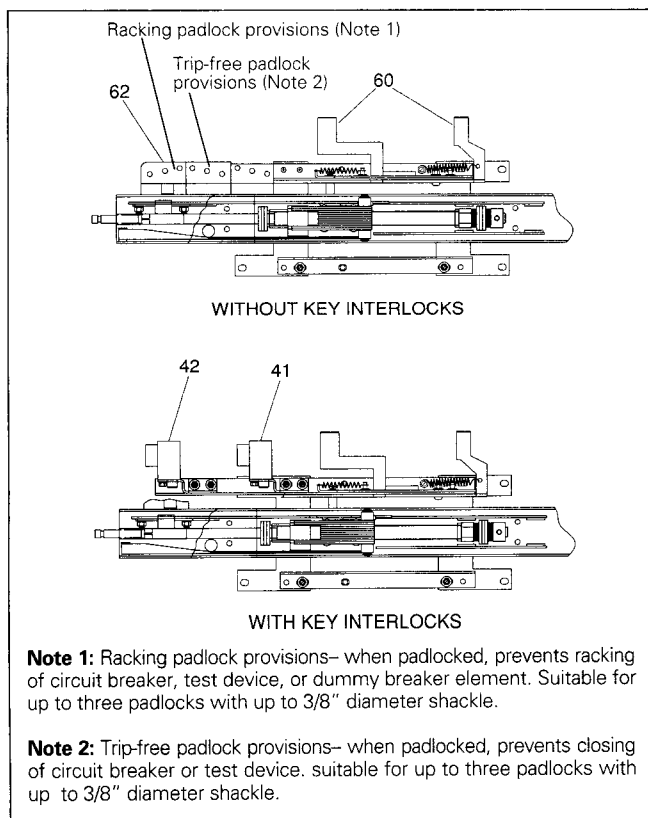

Figure 45. Racking Mechanism and Interlocks
The closed breaker racking interlock is designed to prevent a breaker from being racked from TEST to CONNECT and vice-versa with the primary contacts closed. Only an open circuit breaker is to be moved between these positions. Refer to **Figure 45**.
The trip free interlock slide has angle-shaped members (**Figure 45**, item 60) that project from the left side of the racking mechanism and engage an interlock member from the circuit breaker. The circuit breaker interlock extends down to prevent movement of the trip free interlock slide with the circuit breaker closed. When engaged, the racking screw is not accessible to the racking crank until the breaker has been opened.
The racking interlock slide (**Figure 45**, item 62) has provisions for three padlocks to prevent engagement of the racking crank to the racking screw. This allows locking of the circuit breaker in DISCONNECT, TEST, or CONNECT positions. Key interlocking (**Figure 45**, item 42) can be provided for racking sequence interlocking of dummy breakers, etc. When the key interlock bolt (on key interlock item 42) is extended, the racking interlock slide (item 62) is held in place, preventing access to the racking screw, thus preventing racking. When locked in the DISCONNECT position, the circuit breaker or dummy can be removed for servicing.
In order to lock the circuit breaker trip-free in either the TEST or CONNECT positions, the breaker must be opened and the trip-free interlock slide assembly pushed forward to lift the trip-free roller on the breaker. This position permits the use of a key interlock (**Figure 45**, item 41) or padlocks (up to 3) to maintain the mechanism in trip-free position. The circuit breaker can be removed for servicing while interlocked in the trip-free position.